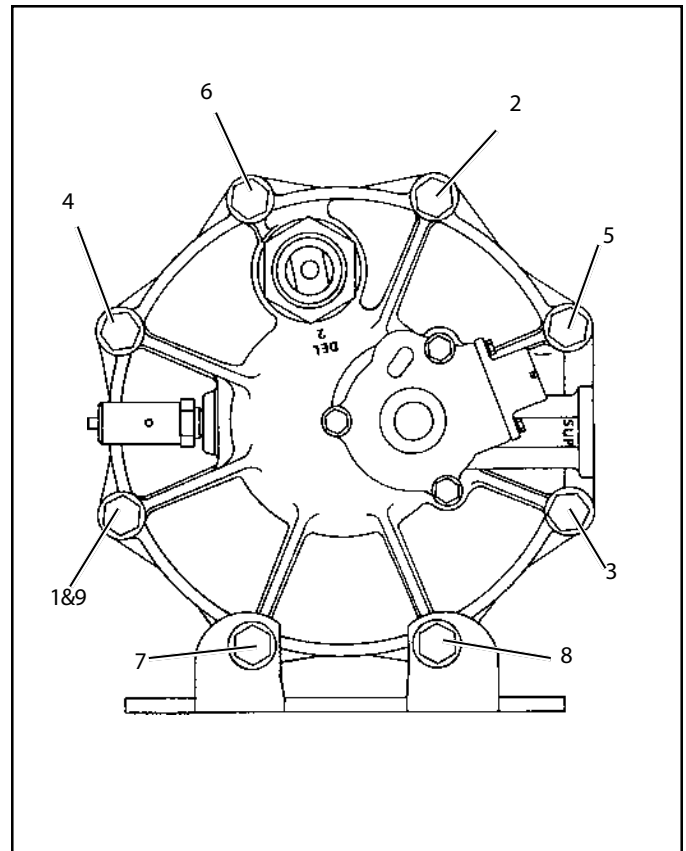

FIGURE 8 - END COVER TO HOUSING TORQUE PATTERN INSTALLATION
4. Install the end cover outer housing o-ring (23) on the shoulder in the end cover. Place the housing (24) over the desiccant cartridge and align the holes. Install the six 3/8" cap screws (16), lock nuts (19) and twelve special washers (17) making certain they are in the proper position as marked during disassembly. The two longer 3/8" cap screws (18) will be used to secure the AD-9 to its mounting bracket. Tighten the six cap screws and nuts in a star pattern in a fashion similar to Figure 8; depending on lower bracket location. Torque to 270-385 in. lbs. (Refer to Fig. 8.) Note: The two remaining bolt holes in the end cover and two 3/8" cap screws must be the ones marked during disassembly to assure proper orientation of the ports and adequate length of the cap screws.